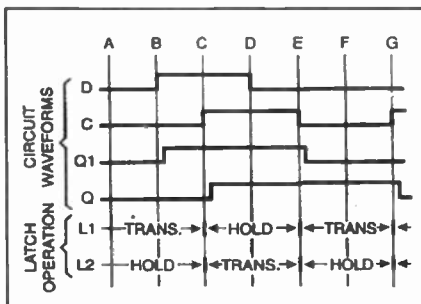

Fig.6.17. Edge triggered latch timing diagrams.
We don't know what this data is but we will assume a 0 for convenience. This is illustrated by time A on the timing diagram (Fig.6.17). At this point any changes on the data (D) input only affect Q1 not the output of the circuit (time B on Fig.6.17).
When C changes from low to high, Latch 1 stores the value currently on D (a 1 in this case, at time C in Fig.6.17). Q1 will be held at this value while CLK1 is high. During this period Latch 2 is transparent and therefore the value just stored by Latch 1 will appear at Q. This value will not change if D changes as Q1 is held (time D).